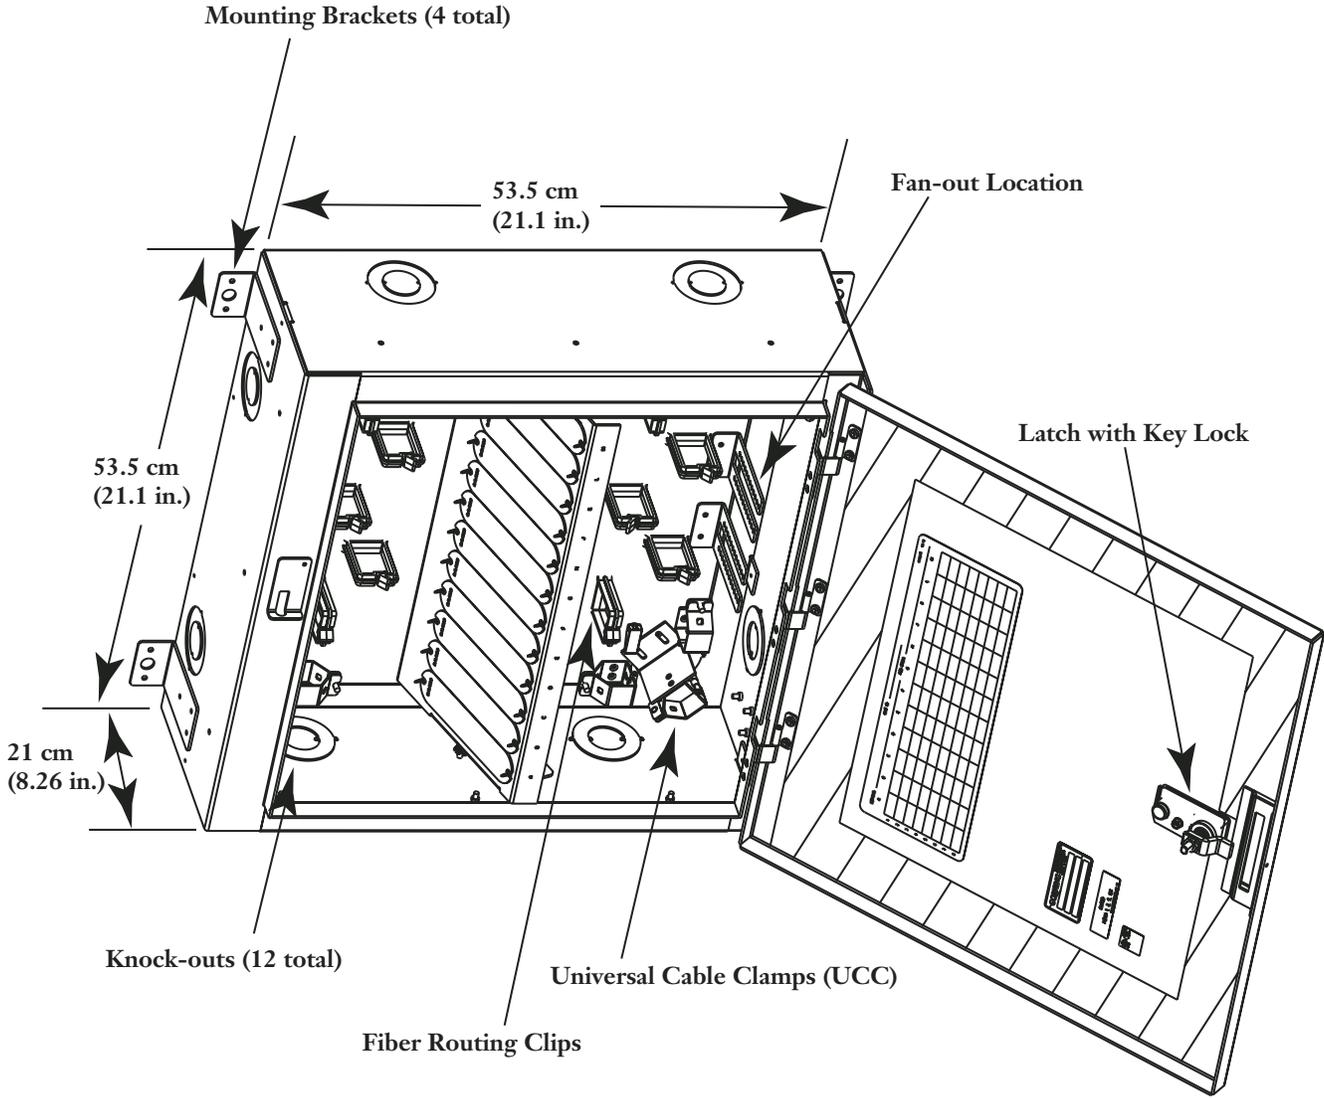

Figure 2
5.1 Components are illustrated in Figure 2.
**6.1** Attach the supplied mounting brackets to the FZB using the screws provided (Figure 2).